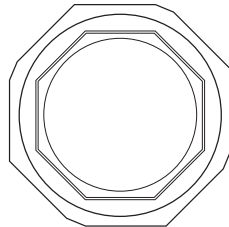

FIGURE 1
A. For manway flange or tank sump adaptor mounting nipples, locate center indicator in sump base for proper alignment of template (See FIGURE 1). After holes are drilled, sand surrounding area with 80 grit or coarser sandpaper or grinder. Clean sanded surface with Acetone to remove any debris, oils, mold waxes or release agents. Apply a generous bead of Bostik adhesive to the outside of the sump, all around of the hole pattern. Mount sump and tighten nuts in a star pattern to ensure an even seal. Backfill the void between the tank top and the bottom of the sump base with clean fill or pea rock.